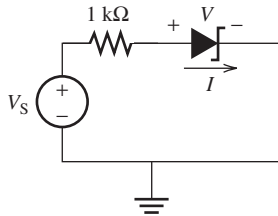

FIGURE P8.23 Circuit for Problem 8.23.
- 8.23** (A) For the circuit shown in Figure P8.23 the Zener diode has $V_z = 6.8$ V. Find I and V when: